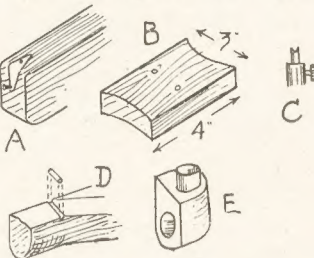

Fig. 4—Details of shaping
At the top of the neck a piece of stout metal or wire should be inserted in a saw kerf, as in detail (D) in Fig. 4. This is for the string to pass over. At the bottom end of the stock a piece of thin metal is cut diamond shape and bent over, as at (A). In this a small round-headed screw or nail is driven to which the string can be hooked over.
On the top of the block bore a hole to admit a piece of metal tube the right size to enter the horn. Bore this hole until it enters the hole already bored for the tube in the side. Glue the tube in, and then shape up the block, as at (E) in Fig. 4. Not too elegant a job, perhaps, but it will serve its purpose.